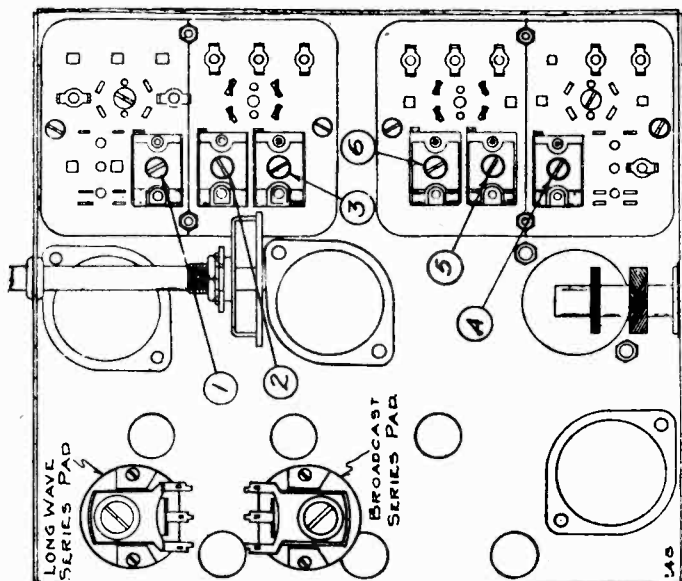

FIG. 3—BOTTOM VIEW (Showing Trimmers)
- (a) Set external oscillator to 187 meters (1600 K.C.) and adjust medium wave oscillator trimmer to resonance (adjustment number 2; see bottom view of coil assembly, Fig. 3.)
- (c) Re-set external oscillator to 500 meters (600 K.C.), and adjust medium wave series pad to resonance by rotating condenser to approximately 600 K.C., rocking it slowly to and fro until by adjusting series pad maximum output is attained. This adjustment is located on the bottom of the chassis directly under the variable gang condenser. (See bottom view of chassis, Fig. 3.)
- (a) Set external oscillator to 860 meters (350 K.C.), and adjust long wave oscillator trimmer to resonance (adjustment number 1; see bottom view of coil assembly, Fig. 3.)
- (c) Re-set external oscillator to 2000 meters (150 K.C.), and adjust long wave series pad to resonance by rotating condenser to approximately 2000 meters, rocking it slowly to and fro until by adjusting series pad maximum output is attained. This adjustment is located on the bottom of the chassis directly under the variable gang condenser. (See bottom view of chassis, Fig. 3.)
- (a) Set external oscillator to 16.5 meters (18.2 Mc.) and adjust short wave oscillator trimmer (adjustment number 3, see Fig. 3) to resonance.
The location of the "B" range oscillator trimmer, has been changed to the front panel—See Fig. 3 of this manual.